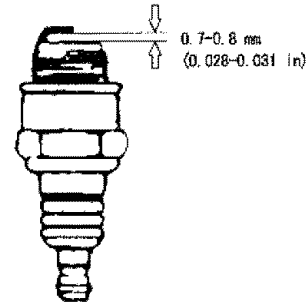

Figure 21- Measuring the spark plug gap
3. Measure the plug gap with a gauge (see figure 21). The gap should be 0.7-0.8mm (0.028-0.031 in).